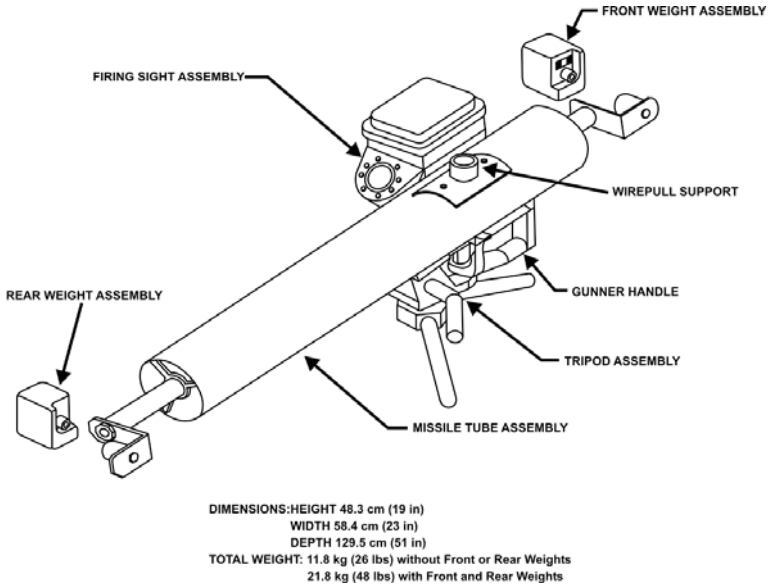

Figure 4-3: Missile Launch Assembly (MLA)
- c. Gunner Case Assembly (GCA)—69 kg (see Figures 4-3 and 4-4).
- e. mount the tripod (see Figure 4-3), the firing sight assembly (FSA), and the missile launch assembly (MLA), then plug the MLA cable into the receptacle on the FSA (J2);